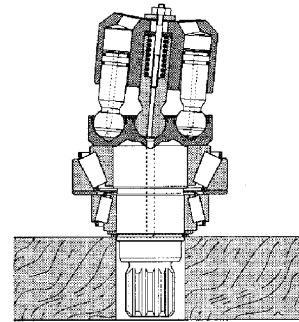

**Figure 127**
36. Tighten motor flange to hub. Figure 127.